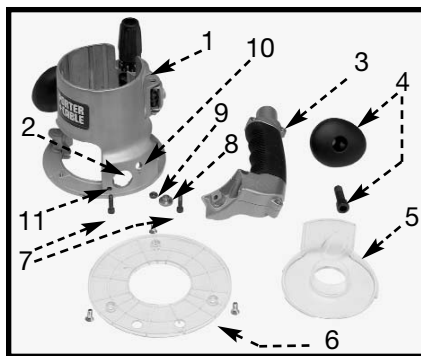

Fig. 24
2. Remove the plastic plug from the dust port (2) Fig. 24.
4. Align the holes of the GripVac handle to the holes of the router base (10) Fig. 24.
5. Insert a hex screw (7) Fig. 24 through the handle into hole (10). From inside the base housing, place the shoulder washer (8) and the hex nut (9) on the screw and tighten nut loosely.
6. From inside the base housing, insert the second screw (7) Fig. 24 into the hole (11) and screw it into the threaded hole of the GripVac handle.